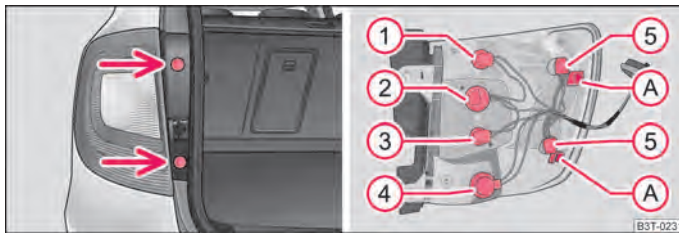

Fig. 209 Remove rear light unit (Combi)
- Take out the plugs ⇒ fig. 209 - left and unscrew the rear light unit using a torx wrench1).
- When re-installing, first insert the rear light unit with the openings (A) onto the studs in the body.
Fitting position of the bulbs ⇒ fig. 209.